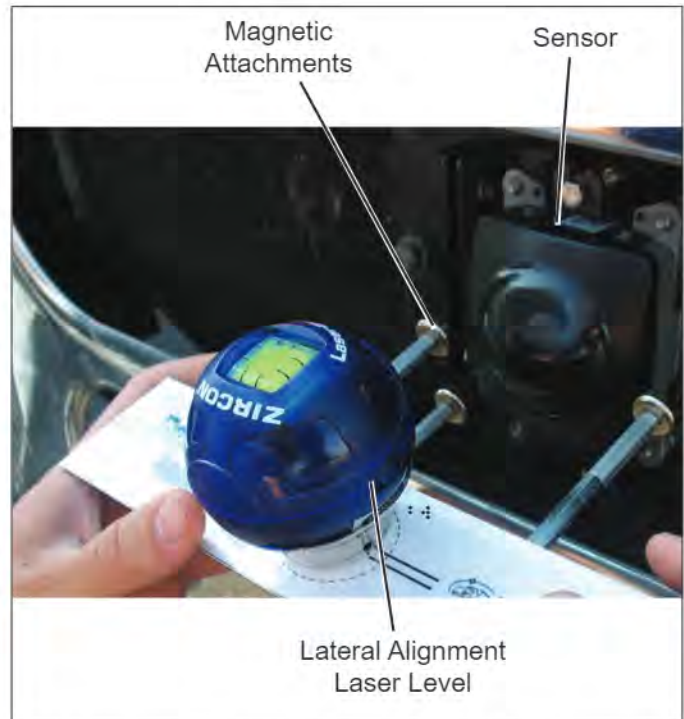

FIGURE 24 - ATTACHING THE ALIGNMENT TOOL
3. Position the alignment tool over the sensor so that it straddles the sensor. Attach the alignment tool to the bracket / sensor assembly with its magnet attachments. See Figures 24 and 25.
4. Verify that the vertical alignment bubble is centered between the two lines as shown in Figure 24. If it is not, follow the instructions below from Section 6.08: *Vertical Adjustment Procedure* to align the sensor. When using the bubble level for vertical alignment, it is important that the bubble be centered with equal space between edges of the bubble and the reference lines. System performance will be too degraded if the bubble touches either reference line. If using inclinometer, sensor alignment should be -0.5° downward. See Figure 24.
3. Position the ACB alignment tool over the ACB sensor so that it straddles the sensor. Attach the alignment tool to the bracket / sensor assembly with its magnet attachments. See Figures 24 and 25.